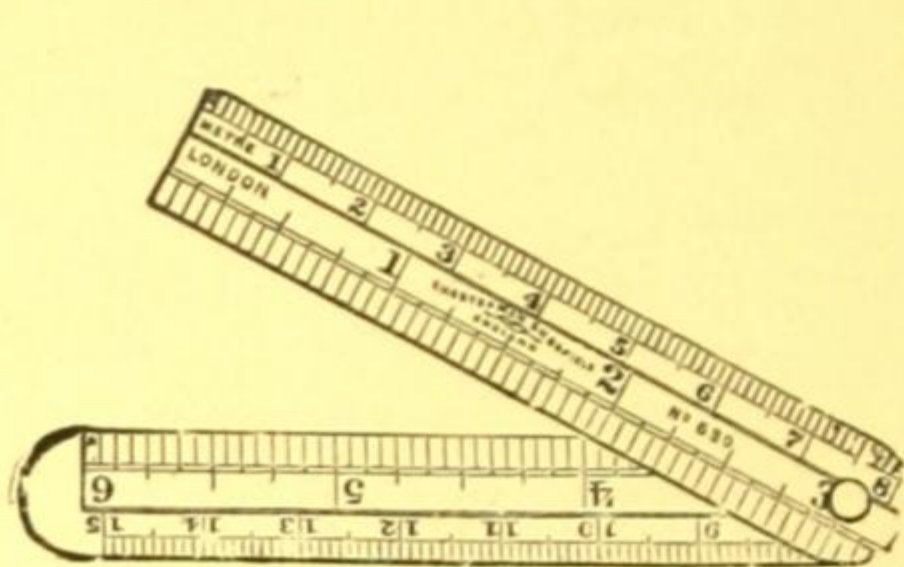

Fig. 201. 6-inch Rule.
- SM 781.—**6-inch Folding Steel Rule**,  $\frac{1}{2}$ -inch wide, with rounded ends, marked on one side into inches and 16ths, and centimetres into millimetres ..... Fig. 201 1/9